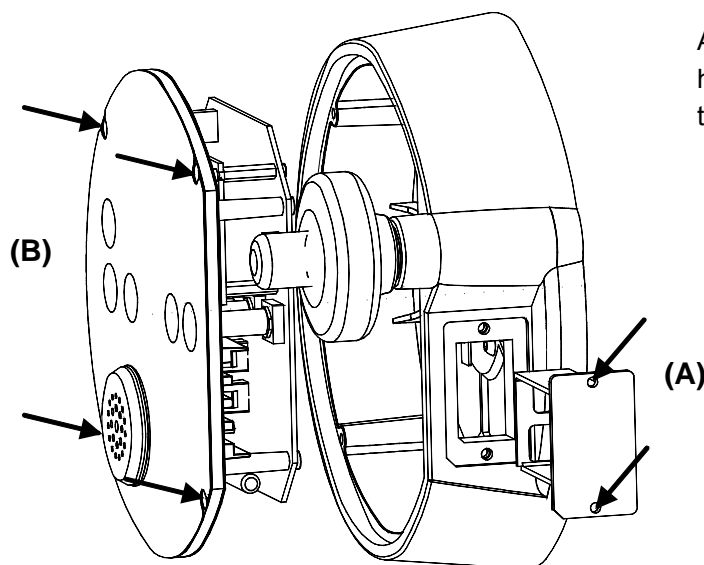

Figure 8-11
- Unscrew with the 2.5 Allen key the 2 screws (A) of the battery holder and pull it out as shown on Figure 8-11.
- Unscrew with the 2.5 Allen key the 4 screws (B) of the display unit and pull it gently out of the electronic box, as shown on Figure 8-11.
- Put back the new display unit in the electronic box; tighten the 4 screws (B) of Figure 8-11.
- Reinstall the battery holder with the 2 screws (A) of Figure 8-11.